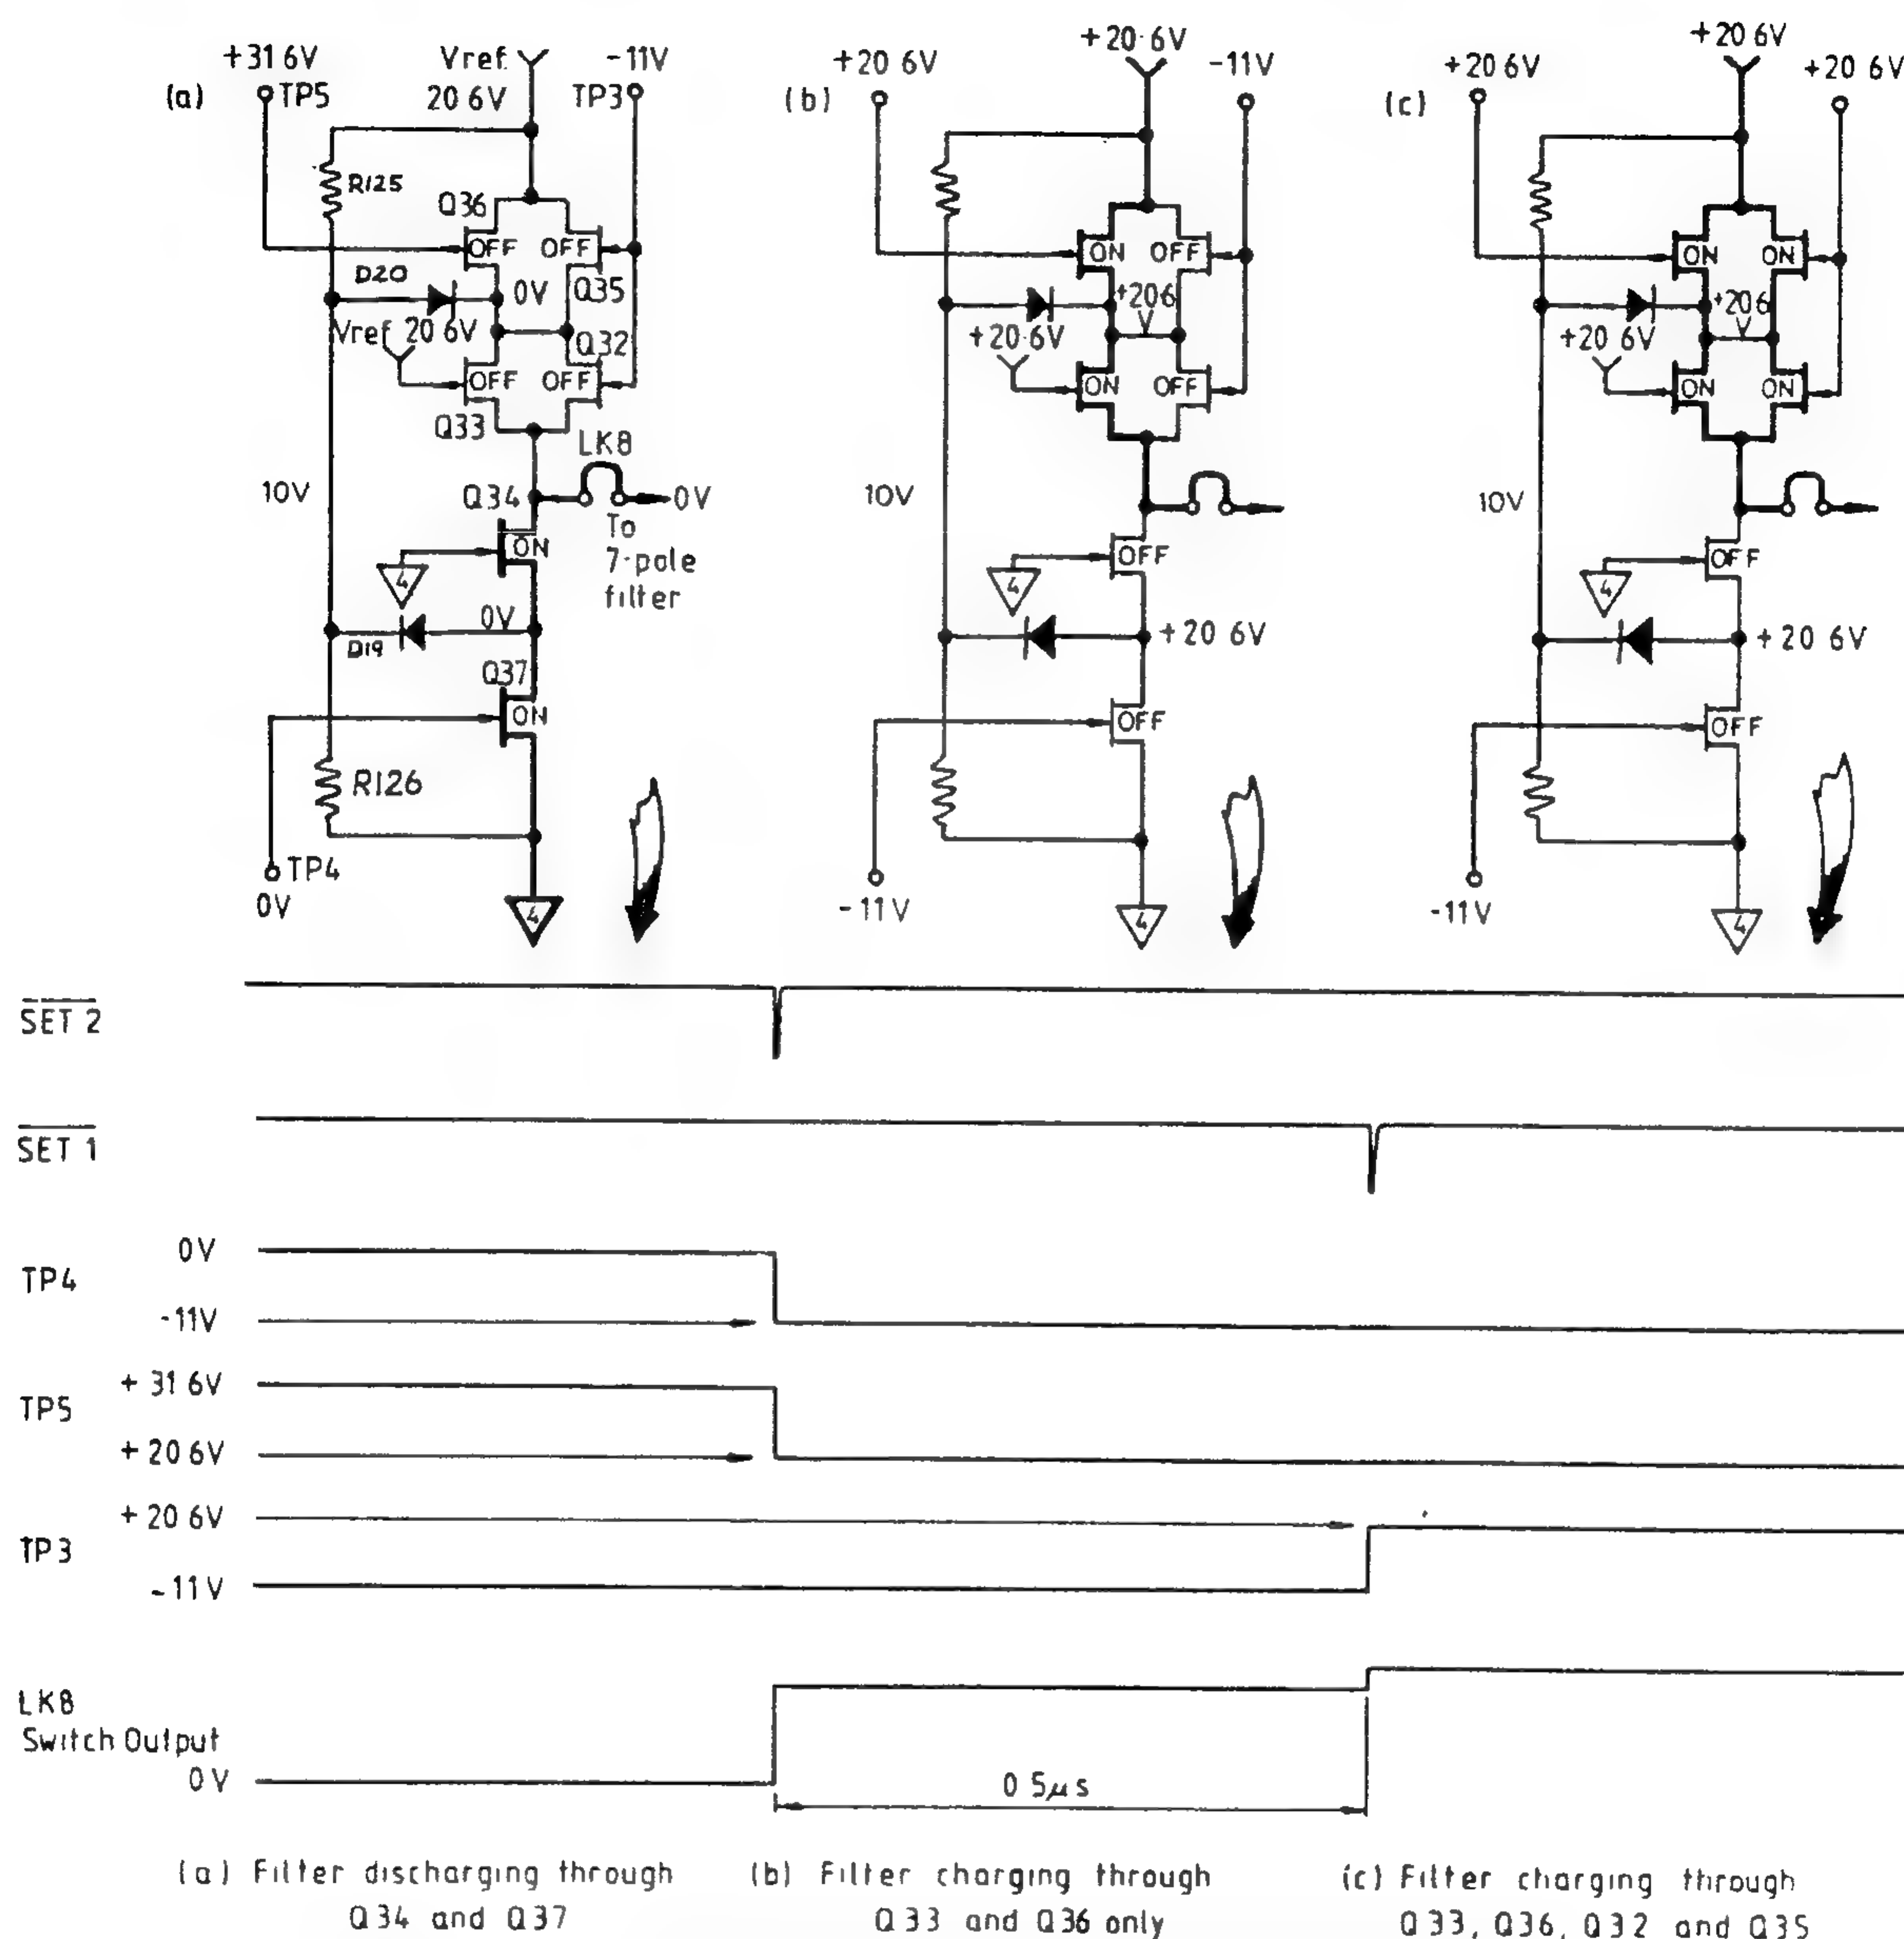

FIG. 6.27 ACTION OF MAIN AND GUARD SWITCHES (MSD)
6.5.8 MAIN and GUARD SWITCHES (Fig. 6.27)
Refer to Fig. 6.27, in which only the Space to Mark (SET) state transfer a-b-c is shown.
6.5.8.1 Switch Timing (Fig. 6.27)
In *Fig. 6.27(a)* the switches are in "space" state:
Fig. 6.27(b) shows this intermediate state after SET 2 and before SET 1, and *Fig. 6.27(c)* illustrates the fully-conducting state after SET 1. Note that for descriptive purposes, the second step on LKB waveform is heavily exaggerated, and is not readily viewed on an oscilloscope. The slightly longer charging time-constant during this half micro-second, due to the higher resistance of Q36/Q33, is not sufficient to disturb the linearity of the filter in excess of specification.